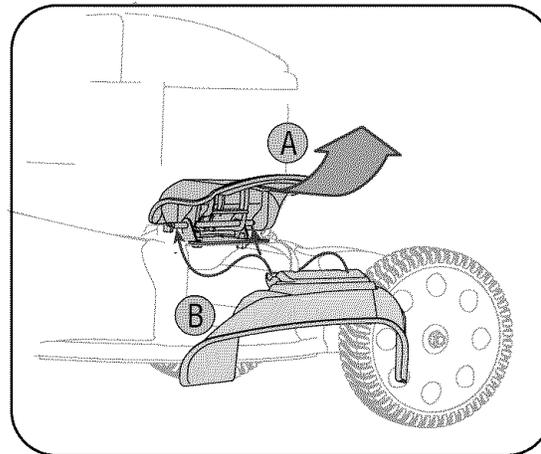

Figure 6
- b. Slide two hooks of side-discharge chute under hinge pin on mulching plug assembly. Lower side mulching plug. See Figure 6. Do not remove the side mulching plug at any time, even when you are not mulching.